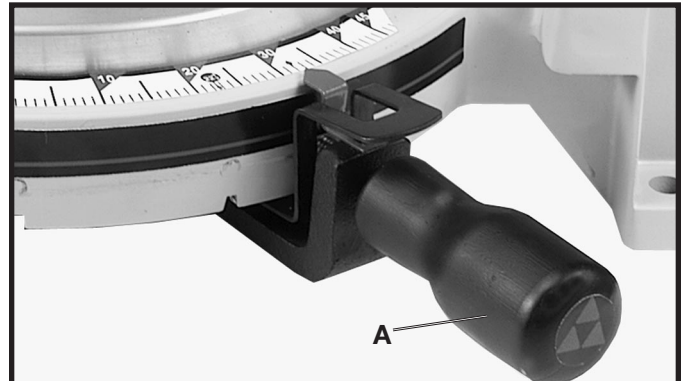

Fig. 15
**IMPORTANT: ALWAYS TIGHTEN LOCK HANDLE (A) FIG. 15 BEFORE CUTTING.**